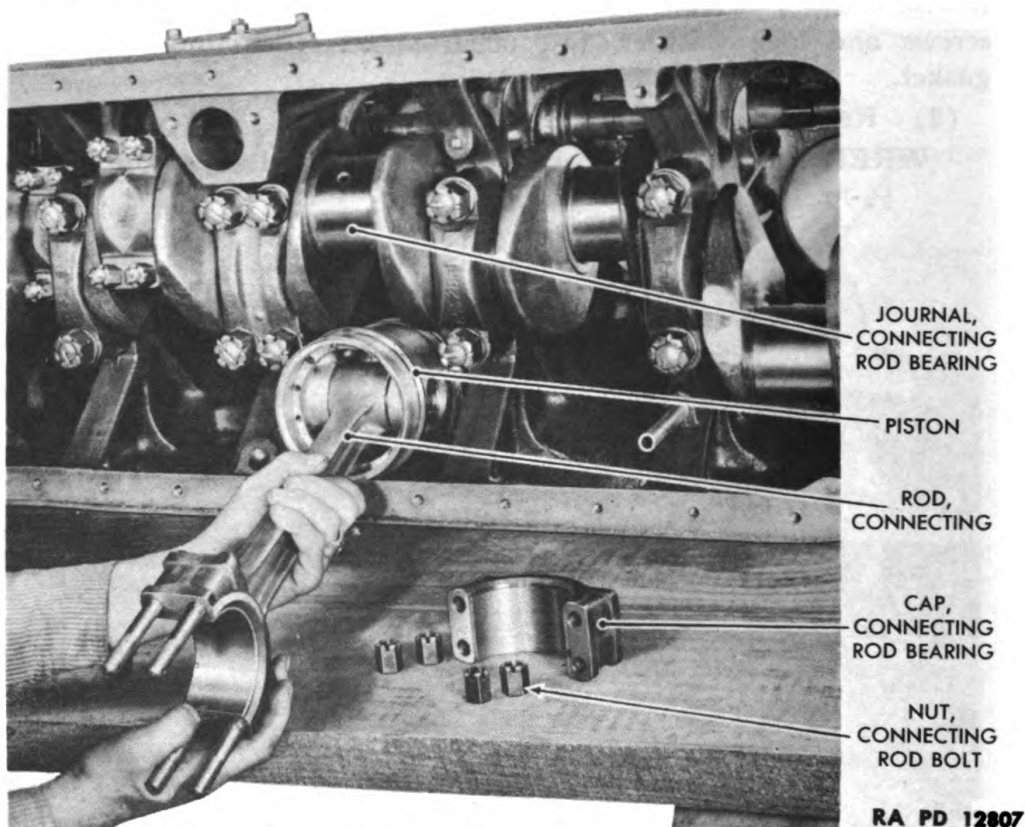

Figure 39—Pulling Out Connecting Rod and Piston
(2) REMOVE PISTON, CONNECTING ROD AND UPPER CONNECTING ROD BEARING (fig. 39).